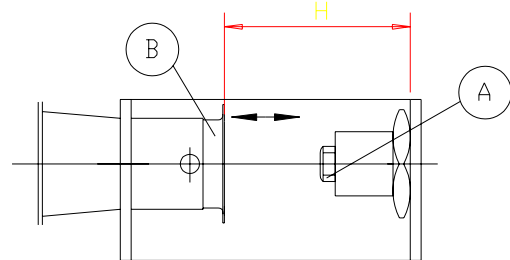

Figure 2
- Change injector (A) (table 1).
- Regulate the venturi (B) (figure 2) to the corresponding H measure (table 1).